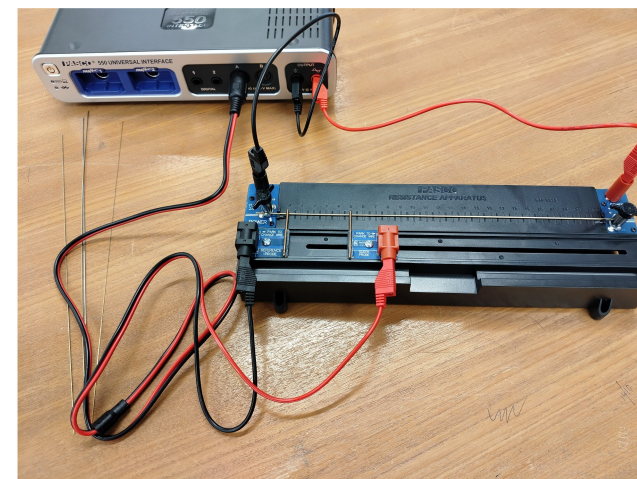

Figure 1: Apparatus Connections
1. Make the connections as shown in Figure 1.